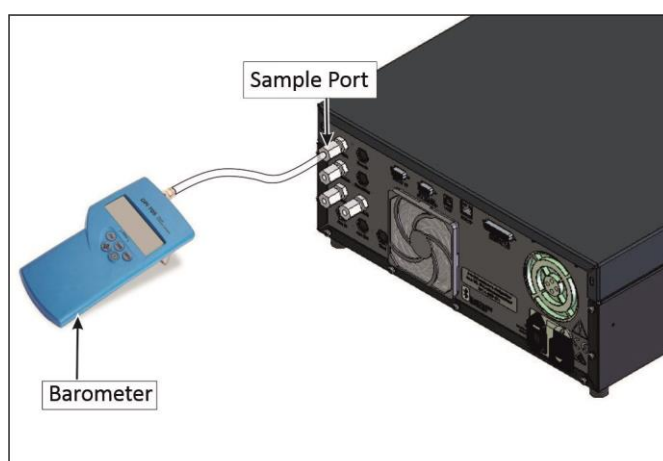

Figure 115 – Pressure Calibration (Internal Pump Option Only) Set-up
3. Refer to Figure 115. Connect a barometer to the **Sample Port**.